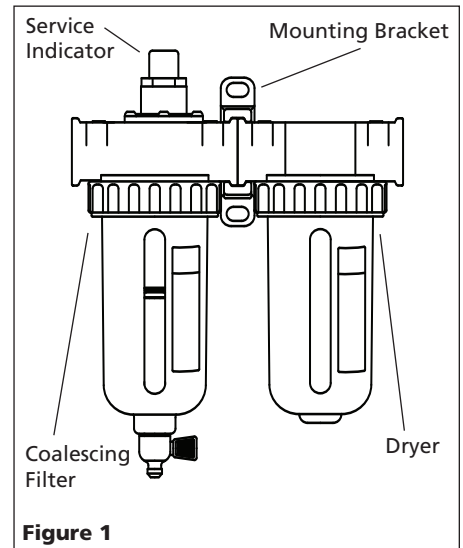

Figure 1
4. Coalescing Filter Replacement - The service indicator on the coalescing filter (shown in Figure 1) signals when the filter element needs to be replaced. When the indicator pops up, the filter element must be replaced. Use replacement filter element PA208703AV.